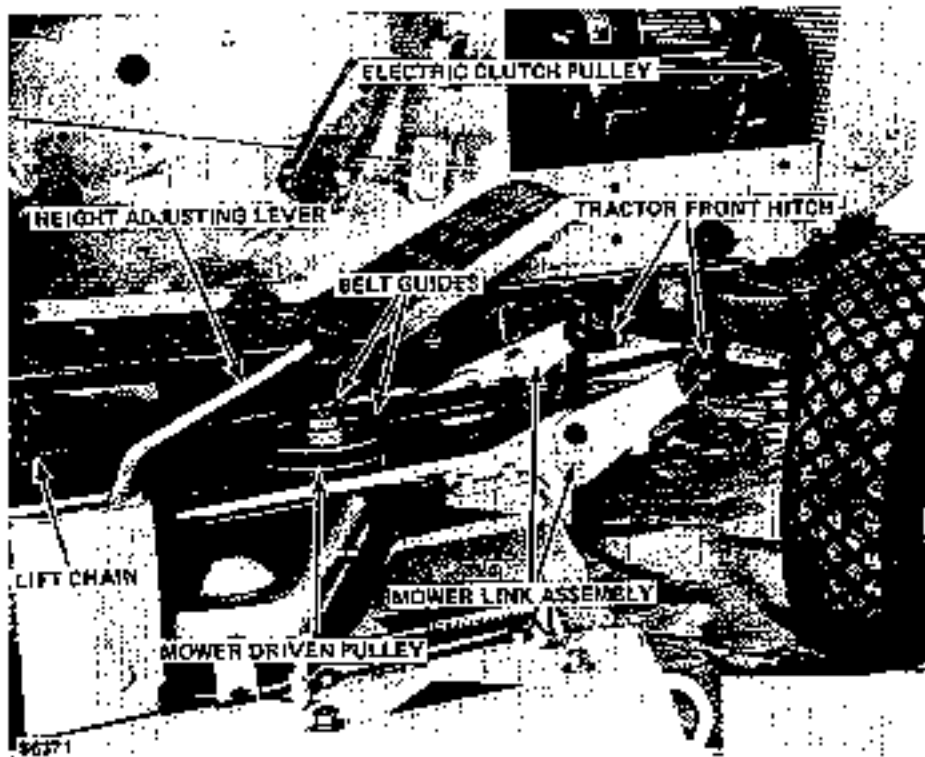
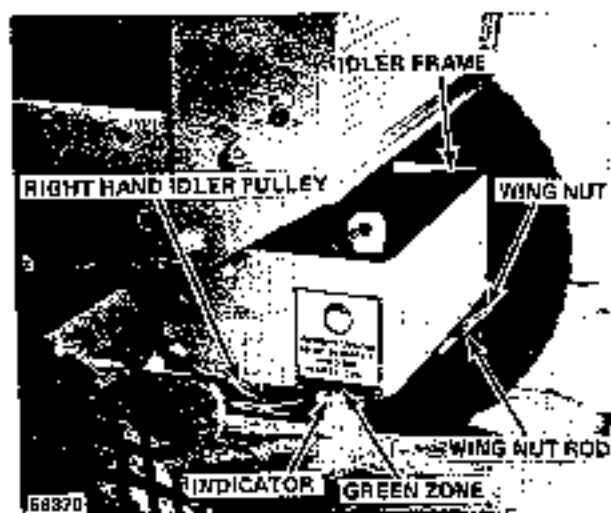

FIGURE 2
FIGURE 3
2. Lift front of mower and align holes in mower link assembly with holes in tractor front hitch and install round head pins and lock pins as shown in Figure 2.
3. With mower in low cutting position, loosen wing nut and back it off almost to end of wing nut rod (Figure 3). Place belt over electric clutch pulley, (Figure 2), over the right hand and left hand idler pulleys, and over the mower driven pulley.
4. Tighten wing nut at front of tractor to tighten drive belt. Continue turning wing nut until the indicator (Figure 3) moves into the rear half of "green" zone on decal on right side of idler frame. Turn nut and lockwasher on wing nut rod down against inside of idler frame and tighten wing nut tight.
5. Adjust belt guides to $1/16$ to $1/8$ inch clearance with mower belt (Figure 2).